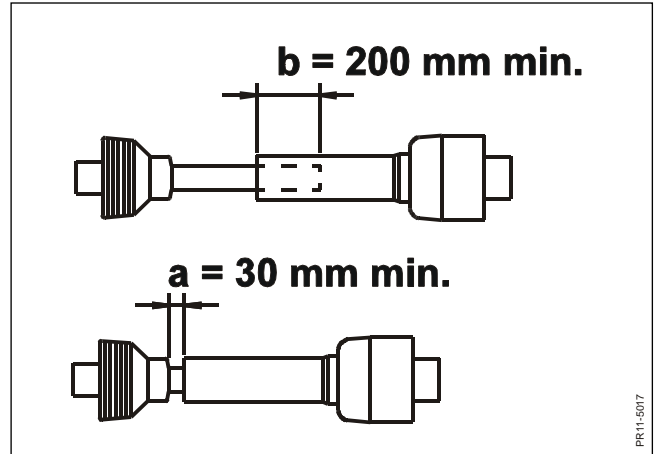

Fig. 2-8
**Fig. 2-8** Adjust the length of the PTO drive shaft so that it in working position has minimum 200 mm overlapping on the profile tubes, in no position is compressed more than the prescribed 30 mm in order not to bottom the shaft, and in the longest position has minimum 100 mm overlap.